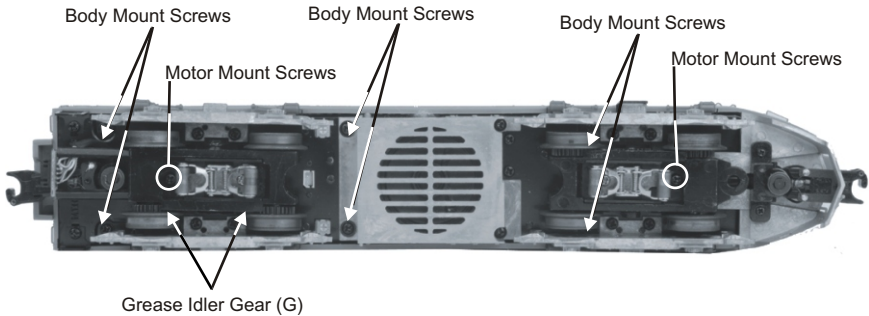

Figure 6. Body Removal Screw Locations
1. To access the gear box, remove the cab from the chassis by unscrewing the body mount screws as seen in Figure 6 and lifting the cab from the chassis.
2. Once the cab is removed, remove the trucks by unscrewing the black Phillips motor mount screw located on the underside of the truck block (see Figure 6).
If you experience poor or no smoke output when the smoke unit is on and has fluid, check the wick to see if it has become hard, blackened, and unabsorbent around the heating element. After removing the locomotive body from its chassis (See Figure 6), remove the smoke unit inspection cover. After removing the inspection cover screws, lift the inspection plate away and inspect the wick. If it is darkly discolored and hard, it should be replaced.